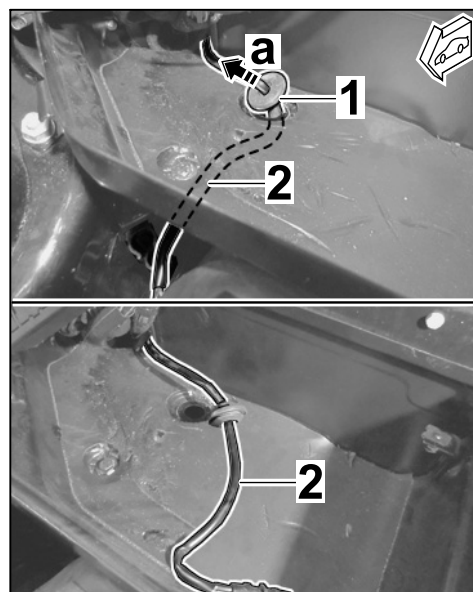

Figure 7
- 3.1.2 Carefully pull rubber sleeve ⇒ *Figure 7-1-* out of the body (relay/fuse carrier housing) ⇒ *Figure 7-a-*.